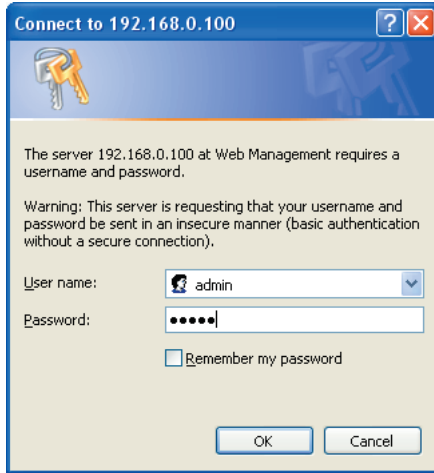

Figure 7-2: Login Screen
2. When the following dialog box appears, please enter the default user name and password "**admin**" (or the password you have changed via console). The login screen in Figure 7-2 appears.